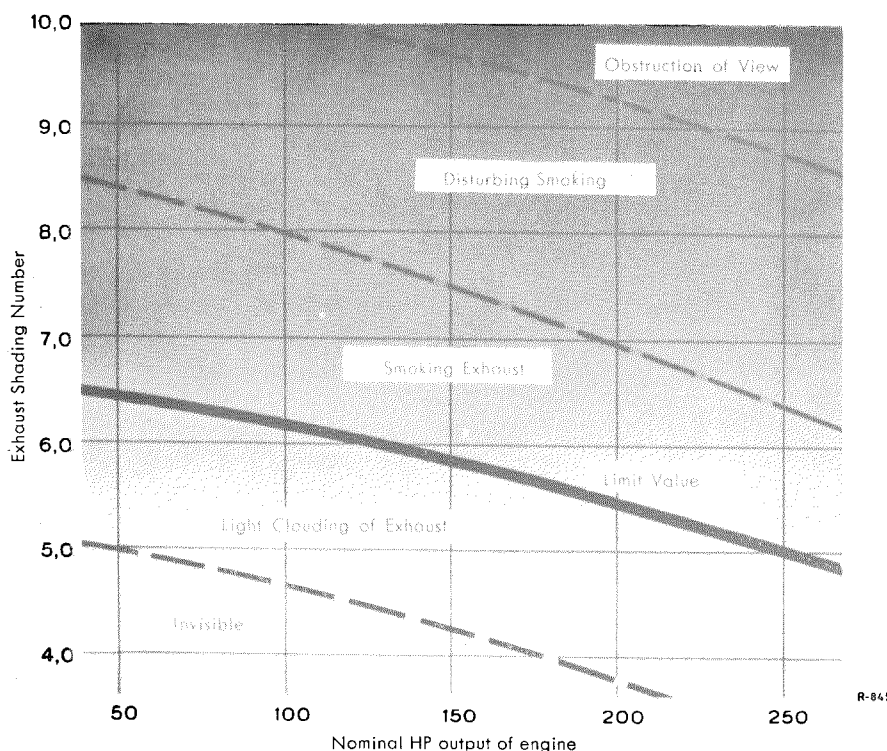

Fig. 07-8/4
If the throttle butterfly has already reached max. opening, increase initial tension of control spring in injection pump by installing washers (20 and/or 14) (see Fig. 07-8/6 for OM 636 and Fig. 07-4/26 for OM 621).
2. In order to test the injection rate accelerate the vehicle in 3rd gear on a level or **slightly ascending stretch** from a low speed (approx. 20 km/h) to the line mark for 3rd gear range on the speedometer. During this drive the exhaust gases must be observed by another person in the vehicle or by driving past the person observing or by trailing in a 2nd vehicle. If the exhaust gases are black and still clearly visible approx. 1 m and more behind the vehicle, then the max. discharge rate is too high. Therefore, screw in the adjusting screw (11 and/or 23) until the clearly visible smoking is no longer observed (see Fig. 07-8/6 for OM 636 and Fig. 07-4/26 for OM 621).
A limiting curve has been plotted for the shading of the exhaust gases of diesel engines in relation to the nominal power output of the engines, which must not be surpassed in the speed range of 40 to 100% of the max. speed while load is applied to the engine (see Fig. 07-8/4).